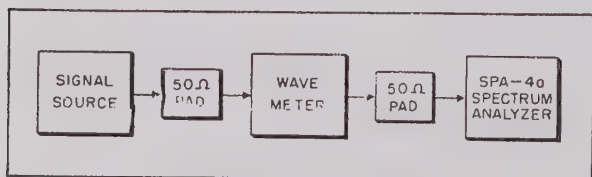

Figure III-3. Test Setup for Wavemeter Measurements.
7. Recheck that the pip is a "true" type (pip travels direction OPPOSITE to pointer travel as TUNING knob is rotated) and that $n = 1$ (see equation (1)). In rechecking use the scale (upper or lower) containing the frequency calculated for f_x to check that $n = 1$. This is based upon the fact that the upper scale in Ranges 1/2 and 3/4 is based on the second harmonic of the local oscillator for that pair. The calibration of the scales for Ranges 6, 7 and 8 are based upon the second, third and fourth harmonics respectively of the Range 5 local oscillator.
9. As a final check, an absorption type wavemeter can be used. The wavemeter is inserted between the signal source and the input as shown in Figure III-3.